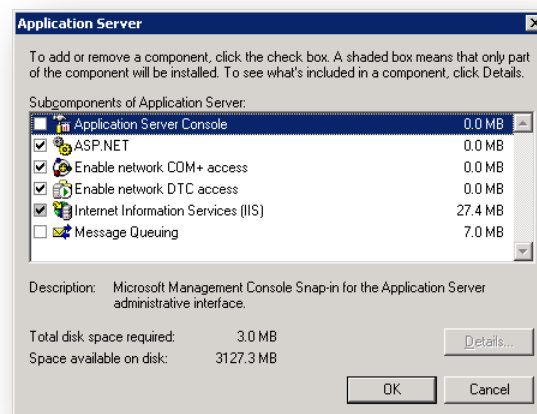

Figure 40 – Application Server
3. In the “Select Server Roles” window, check “Web Server (IIS)” and click “Next.” See Figure 40.